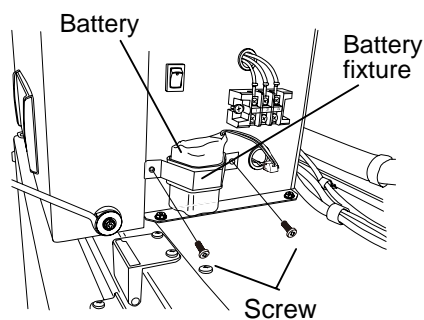

Fig. 3
3. Remove 2 screws fixing the battery with a screw driver. (Fig. 3)
4. Remove the unit cover of the freezer. See Fig.3